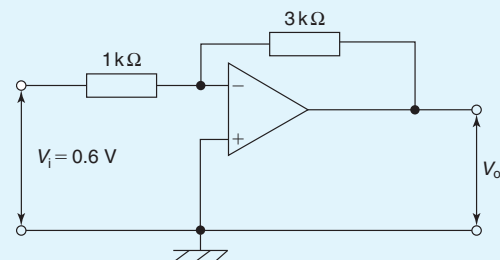

Figure 19.26
4. The output voltage, V_o , in the amplifier shown in Fig. 19.26 is:
5. The $3\text{ k}\Omega$ resistor in Fig. 19.26 is replaced by one of value $0.1\text{ M}\Omega$. If the op amp has an input bias current of 80 nA , the output offset voltage is: